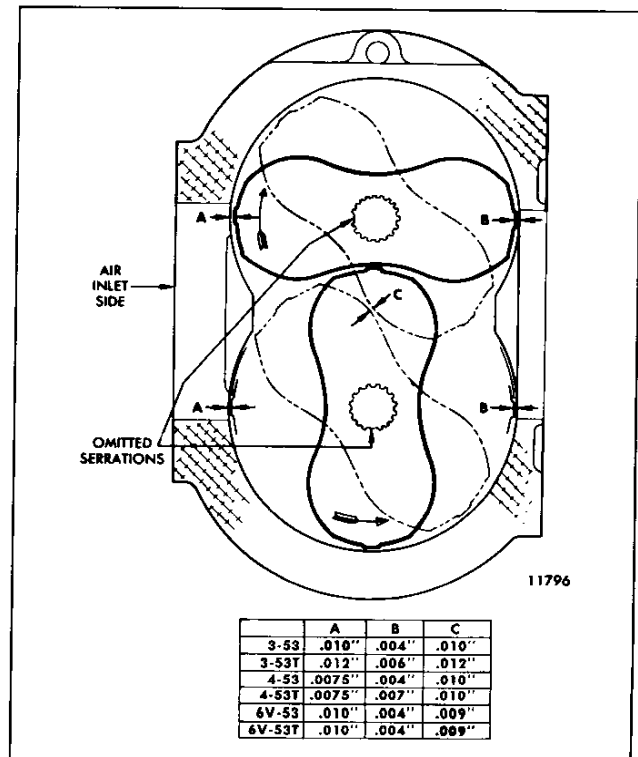
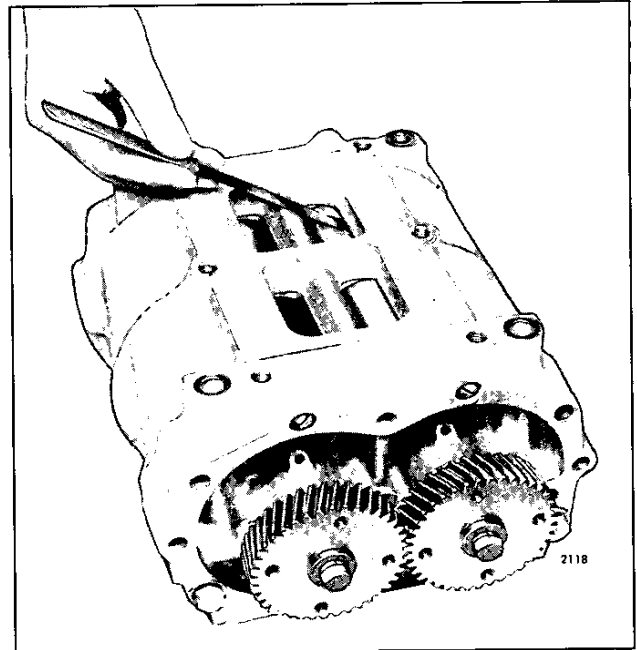

Fig. 16 - Minimum Blower Rotor Clearance
Fig. 18 - Measuring Rotor Lobe to Housing Clearance
10. Position the rotors so that the missing serrations on the gear end of the rotor shafts are 90° apart. This is accomplished by placing the rotors in a "T" shape, with the missing serration in the upper rotor facing to the left and the missing serration in the lower rotor facing toward the bottom (Fig. 16). Install the shims and spacers in the counterbore in the rear face of the rotor gears. Then, place the gears on the ends of the shafts with the missing serrations in alignment with the missing serrations on the shafts.
- a. Measure the clearance between the rotor lobes and the housing (Fig. 18). Take measurements across the entire length of each rotor lobe to be certain that a minimum clearance of .004" exists at the *air outlet side* of all blowers and a minimum clearance of .0075" (In-line engine blower) or .010" (6V engine blower) exists at the *air inlet side* of the blower (Fig. 16).
- b. Measure the clearance between the rotor lobes, across the length of the lobes, in a similar manner. By rotating the gears, position the lobes so that they are at their closest relative position (Fig. 16).